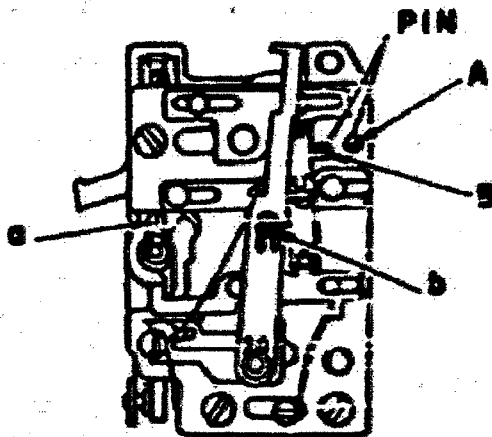
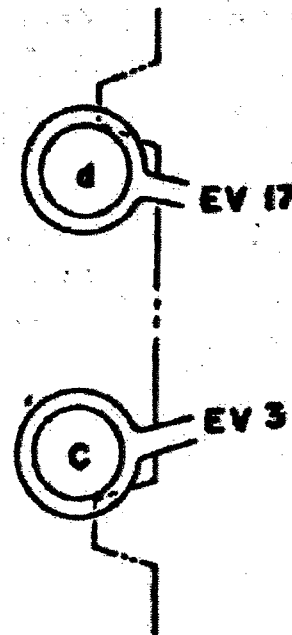
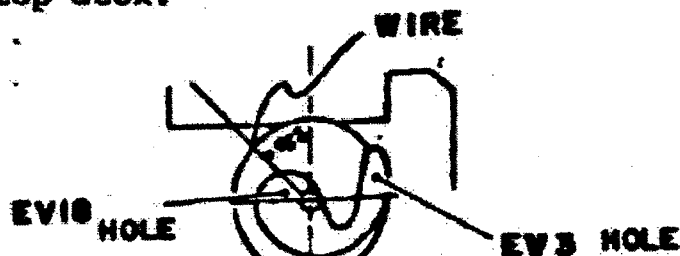

Fig. 1
Fig. 2
Fig. 9
(1) Start Position Adjustment
- (b) Align the EV3 position hole in the cam/puiley with the hole "A" in Figure 1 and install the pin to hold the position. (See also Figure 9)
- (d) Adjust eccentric "a" in Figure 1 so the match needle is aligned as shown in Figure 2 "C"
(2) Stroke Adjustment
- (a) Align E7 17 hole with hole "B" in Figure 1 and install pin.
- (c) Adjust eccentric "b" in Figure 1 until the match needle is adjusted to position "d" in Figure 2.
- (3) Repeat procedure to insure that the stroke adjustment is correct.